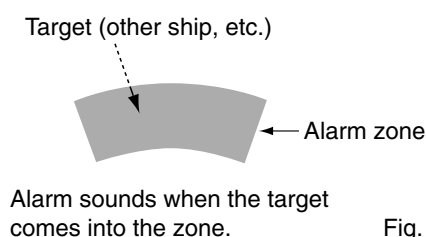

Fig. 3
- ① Push [MENU]/[菜单] several times to call up the FUNCTION menu.
- ② Push [▼] until the “ZONE ALARM” section becomes highlighted.
- ③ Push [◀ ▶] to select IN or OUT
- IN : Alarm sounds when the target comes into the zone. (see Fig. 3)